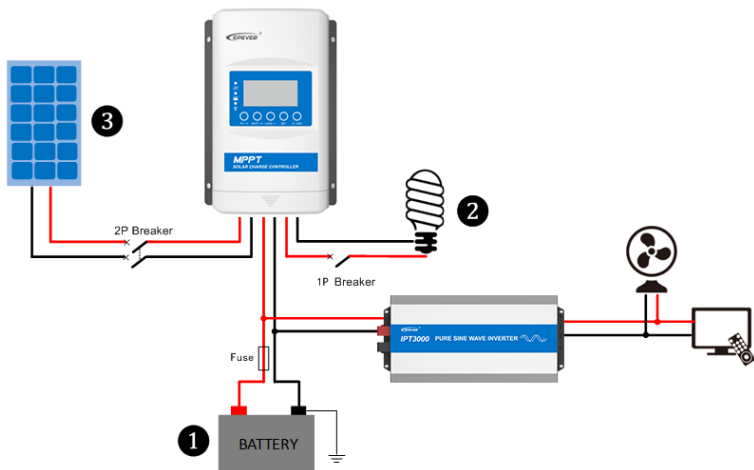

Figure 2-2 Schematic of wiring diagram
Step 2: Connect the system in the order of ① battery → ② load → ③ PV array by Figure 2-2," Schematic Wiring Diagram" and disconnect the system in the reverse order ③ ② ①.